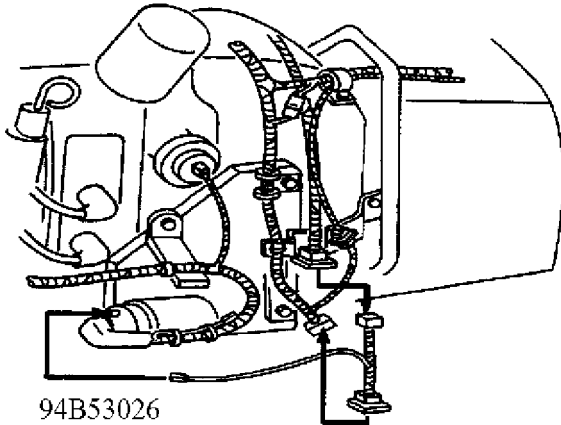

Fig. 2: Installing Countermeasure Harness
4. Connect countermeasure harness FDY1 67 SH0 as shown in Fig. 2.